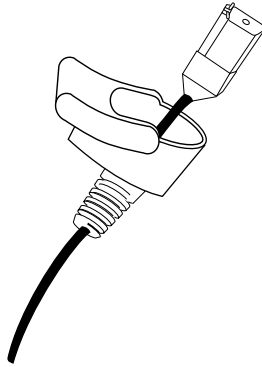

Figure 2-1. Scanner Cable
2. Pull the boot up over the cable until just the connector is protruding (Figure 2-1).